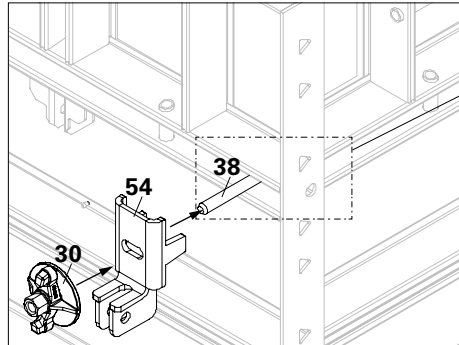
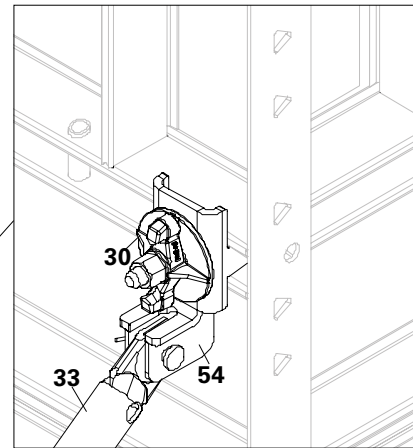

Fig. A6.06a
Fig. A6.06c
3. Attach the external brace connector (54) to HSA corner connector DW15 (38) and then insert the wingnut counterplate DW15 (30). (Fig. A6.06a)
4. Tighten the wingnut counterplate DW15 (30) to ensure that the HSA corner connector DW15 (38) is properly fixed with the external brace connector (54).
5. Fix the push-pull prop (33) to the external brace connector (54) by means of pins and cotter pins. (Fig. A6.06c)
6. Perform the similar procedure to fix the external brace connector (54) for kicker.